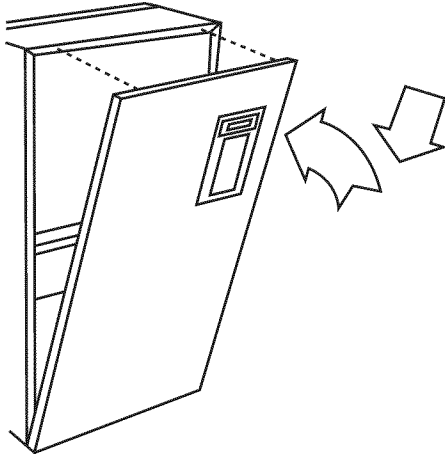

Fig. 30 - Furnace Door Replaced
9. Replace main furnace door. (See Fig. 30.)